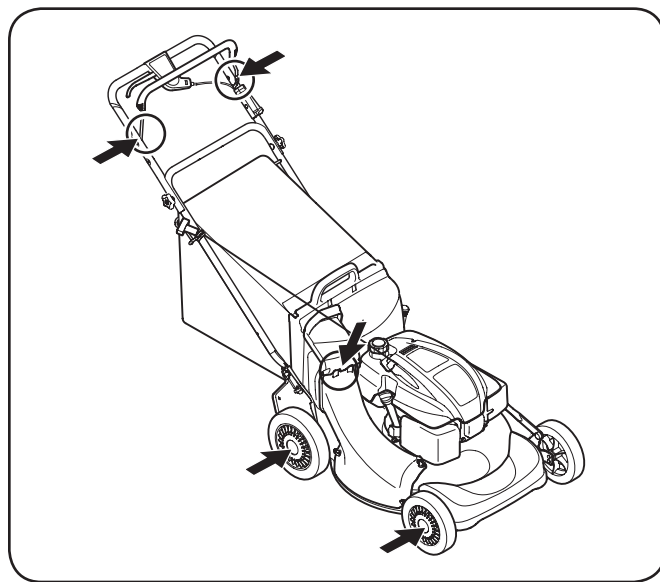

Figure 6-1
1. Lubricate pivot points on the blade control at least once a season with light oil. The blade control must operate freely in both directions. See Fig. 6-1.
2. Lubricate the wheels at least once a season with light oil (or motor oil). If wheels are removed for any reason, lubricate the axle bolt and inner surface of the wheel with light oil. See Fig. 6-1.
3. Lubricate the torsion spring and pivot point on each end of the grass catcher adapter door at least once a season with light oil to prevent rust. See Fig. 6-1.